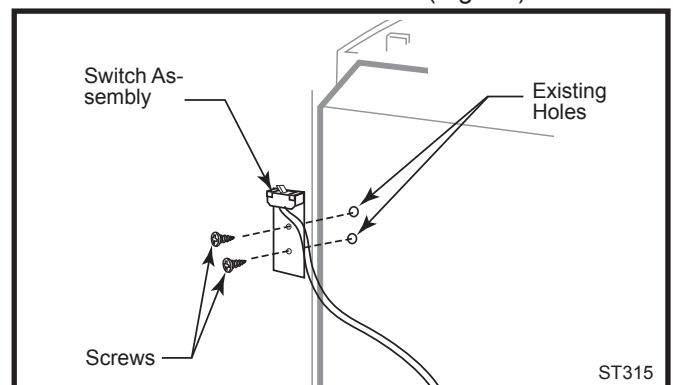

Fig. 48 Attach switch assembly to rear shroud.
1. Attach switch assembly to left rear side of stove shroud using two screws and existing holes in shroud. (Fig. 48)